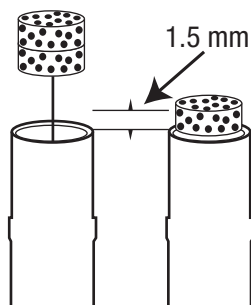

Figure 3
4. Using dry, clean, gloved hands, place a new filter into the tip cone (see Figure 3).